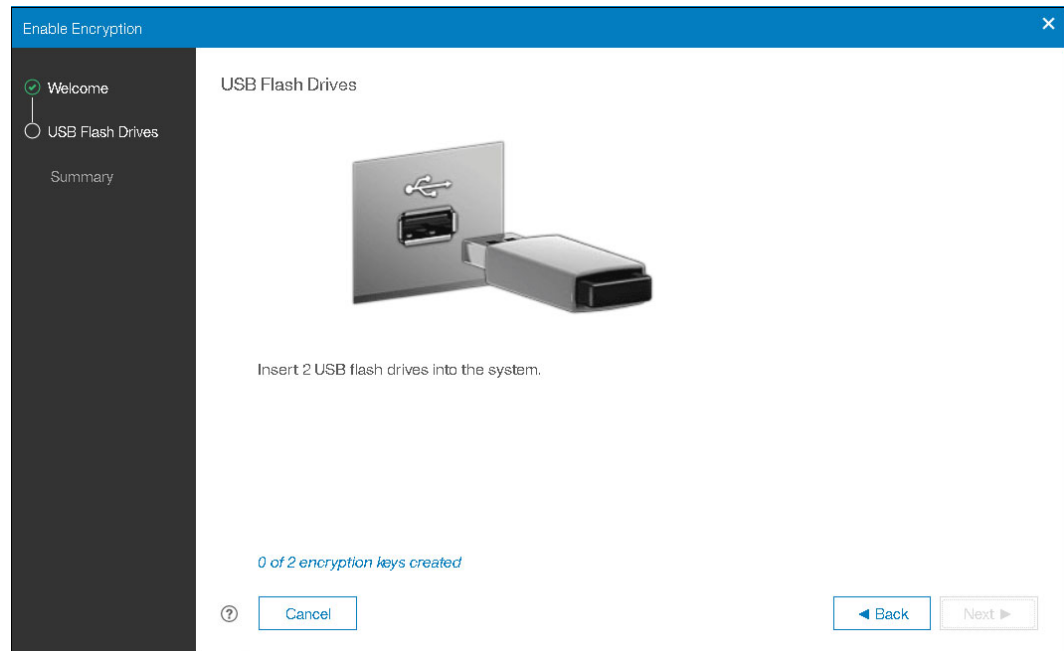

Figure 7-35 Waiting for the USB flash drives
5. Insert two USB flash drives into the FlashSystem 900 controller USB ports (one in each canister) and click **Next** (see Figure 7-35).